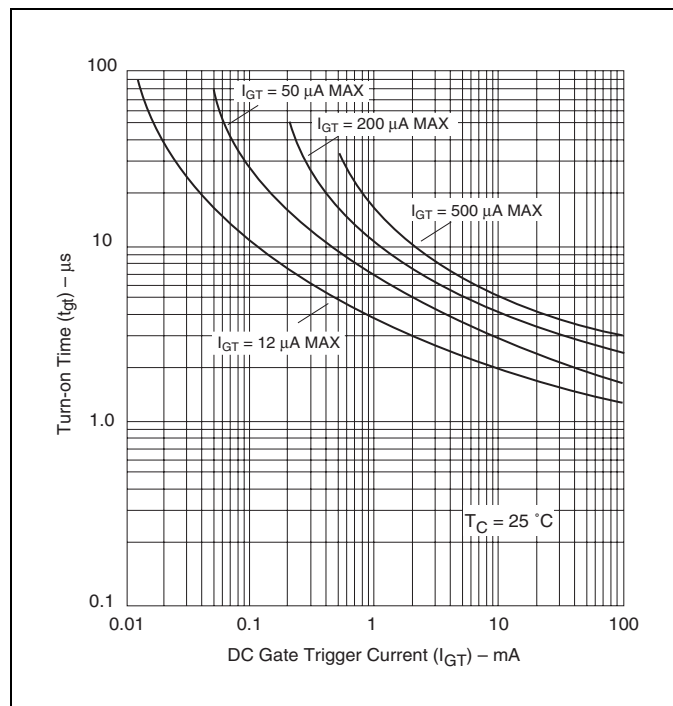
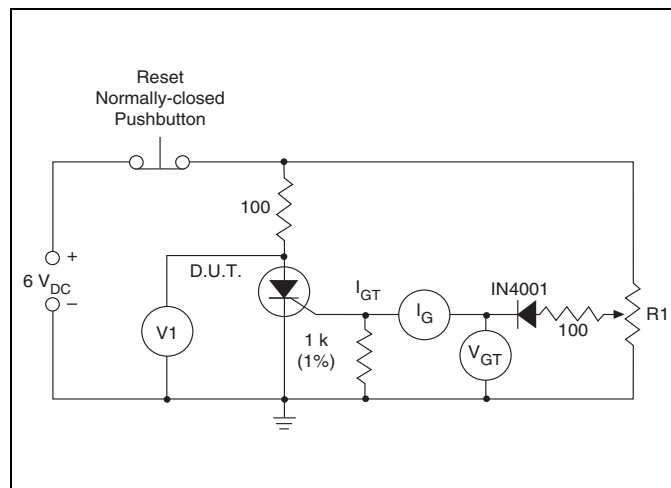

Figure E5.15 Typical Turn-on Time versus Gate Trigger Current
Figure E5.19 Simple Test Circuit for Gate Trigger Voltage and Current Measurement
- (8) See Figure E5.15 for  $t_{gt}$  versus  $I_{GT}$ .
- (9) Test conditions as follows:
- (10) Test condition is maximum rated RMS current except TO-92 devices are 1.2  $A_{PK}$ ; T106/T107 devices are 4  $A_{PK}$ .
- (11) See package outlines for lead form configurations. When ordering special lead forming, add type number as suffix to part number.
- (12)  $V_D = 6$  V dc,  $R_L = 100 \Omega$  (See Figure E5.19 for simple test circuit for measuring gate trigger voltage and gate trigger current.)